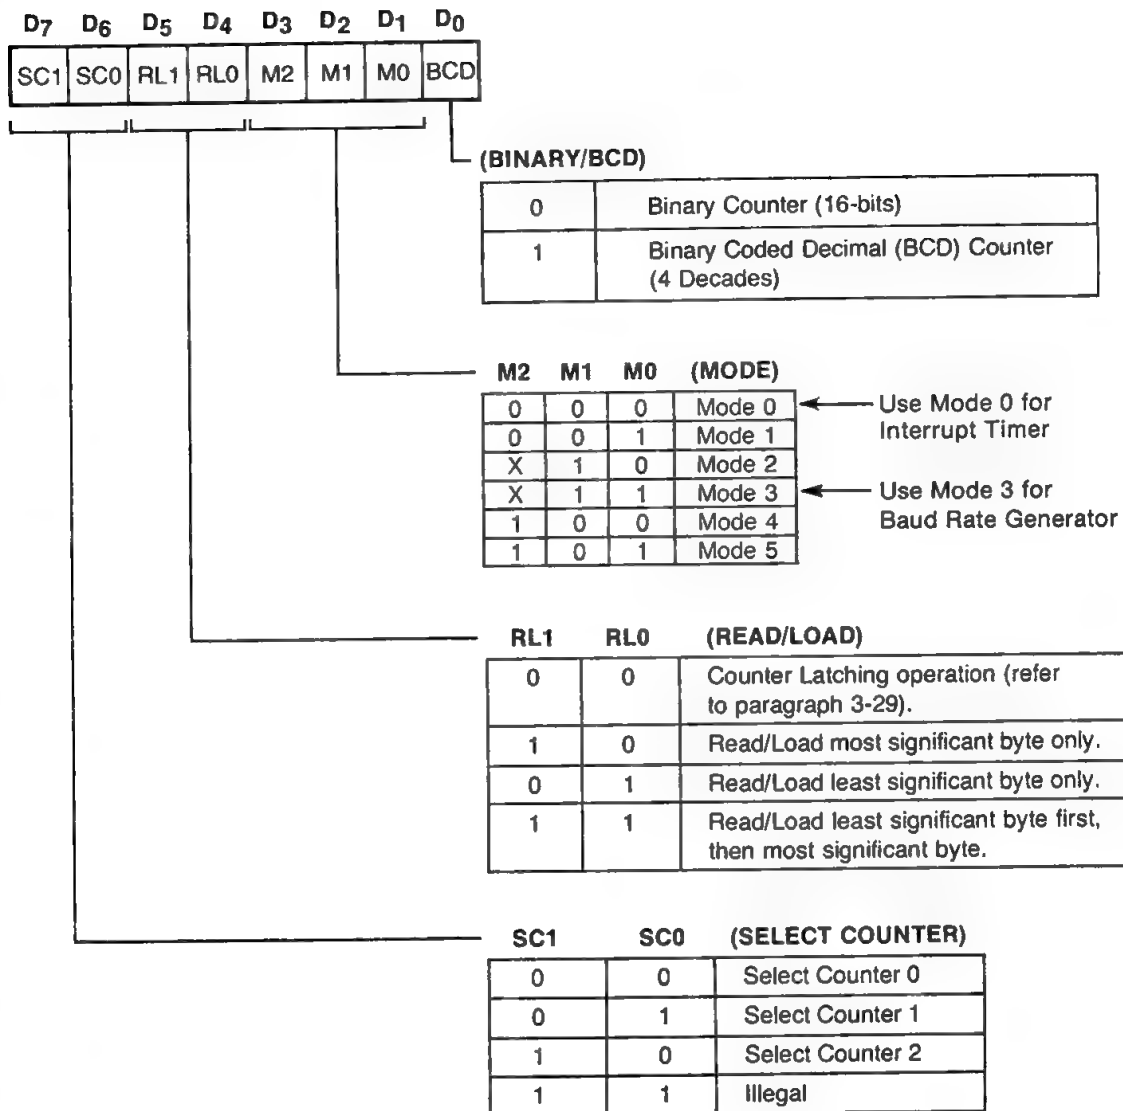

Figure 3-8. PIT Control Word Format
1. A mode control word (Figure 3-8) is written to the control register for each individual counter.
The mode control word (Figure 3-8) does the following:
The count mode selected in the control word controls the counter output. As shown in Figure 3-8, the PIT chip can operate in any of six modes:
1. Write the mode control word for counter 0 to address XB. Note that all mode control words are written to XB, since the mode control word must specify which counter is being programmed. (Refer to Figure 3-8.) Table 3-7 provides a sample subroutine for writing mode control words to all three counters.